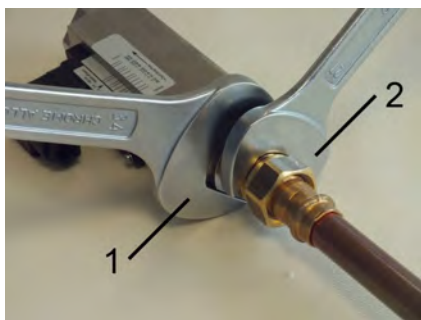

Fig. 12: Screw in the device
2. ➤ Fasten the adapter union of the pipeline with an appropriate spanner (Fig. 12/2). When doing so, lock the process connector in place to prevent slip, using a suitable spanner (Fig. 12/1).